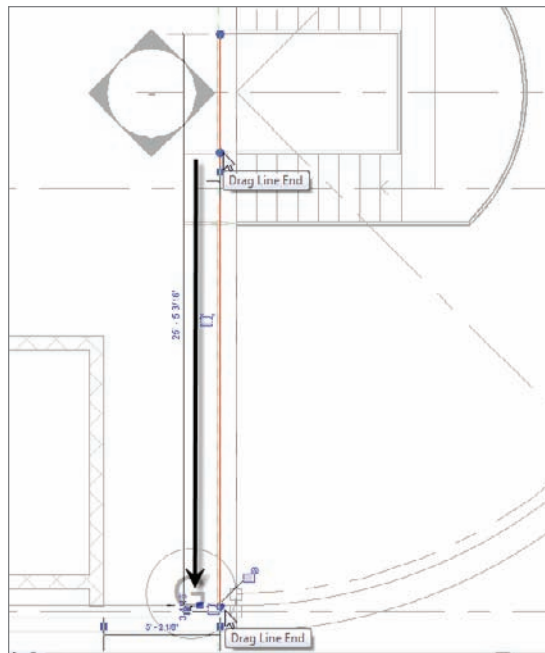

FIGURE 10.31 Extending the railing to complete Level 5
8. Select the smaller, middle railing, as shown in Figure 10.31.
10. Extend the line down to the south wall, as shown in Figure 10.31.